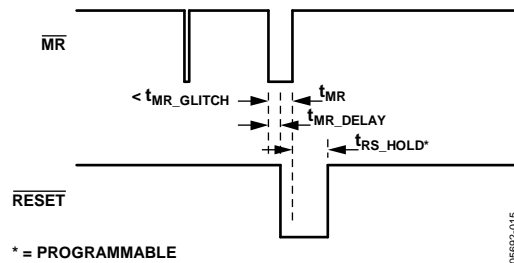

Figure 15. Manual Reset ( $\overline{MR}$ ) Timing Diagram
The  $\overline{MR}$  and RESET timing diagrams are shown in Figure 15. Note that RESET is activated after  $t_{MR\_DELAY}$  and is held for  $t_{RS\_HOLD}$  after the  $\overline{MR}$  signal has gone high again.
- When  $\overline{\text{MR}}$  is asserted (see Figure 15)